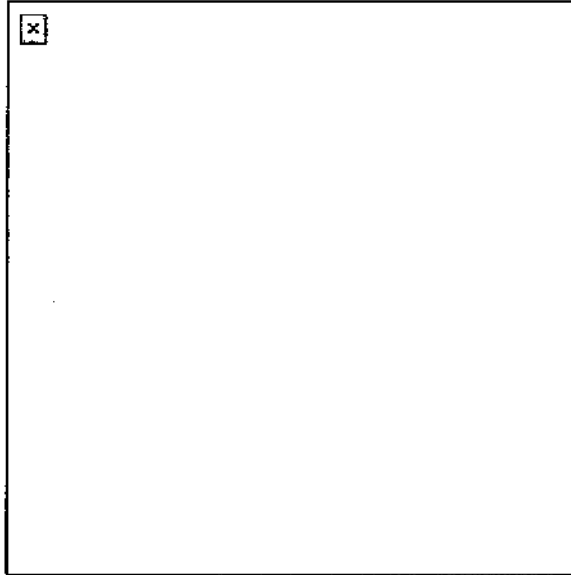
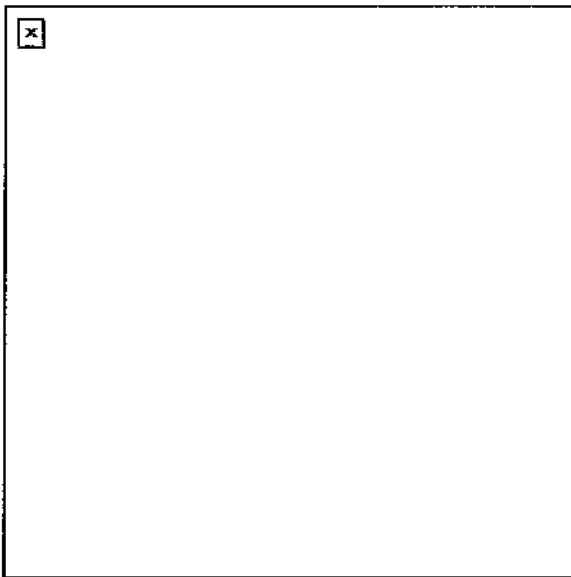

Figure 4. Sample 25-meter zeroing target for M16A1.
Figure 5. Sample 25-meter zeroing target for M16A2.
- b. Repeat Task Step 5 and Task Step 6 until the center of the shot group is 7 centimeters below the target aiming point as shown in Figure 4 and Figure 5.
EXAMPLE: From the center of the shot group in Figure 4, move the azimuth adjustment actuator 11 clicks to the left.
- From the center of the shot group in Figure 5, move the azimuth adjustment actuator 9 clicks to the left. Move the elevation adjustment actuator 16 clicks.